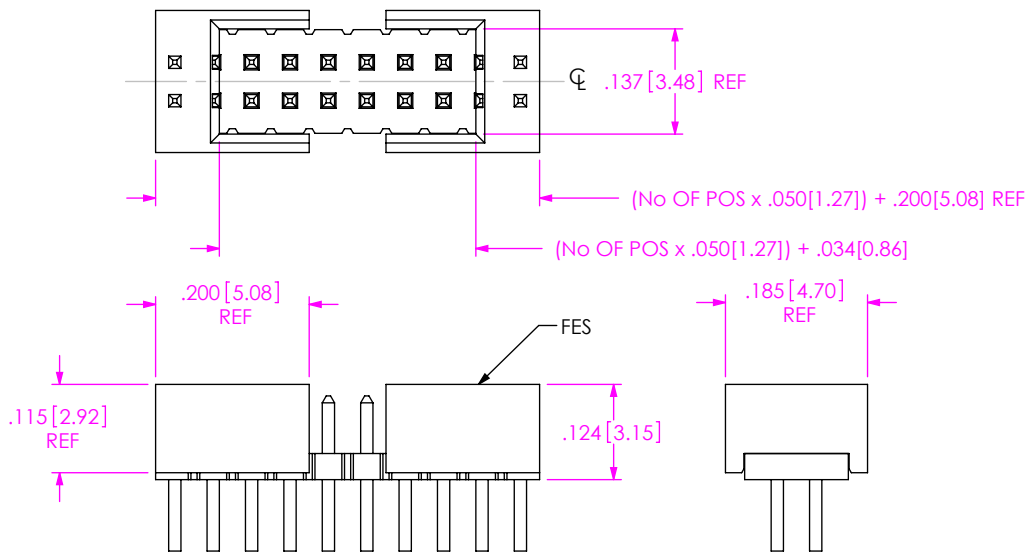

FIG 6
- S: END SHROUDS (SEE FIG 3, SHT 2 & FIG 6 SHT 3) (LEAD STYLE -02 & -03 ONLY) (05 POS MINIMUM, 46 POS MAXIMUM) (NOT AVAILABLE WITH -A OPTION; ORDER -SA FOR ALIGNMENT PIN WITH SHROUD)